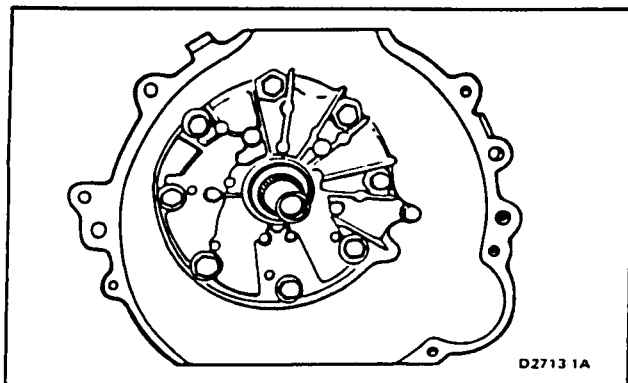

FIG. 17 Converter Housing
7. Unbolt converter housing and remove housing and hydraulic pump as an assembly (Fig. 17). Remove the No. 1 thrust washer and the gasket.